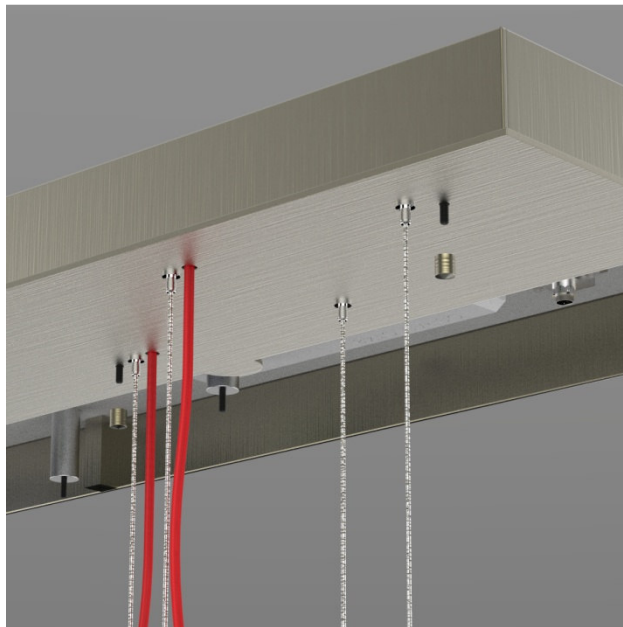

Figure 6
- Lift housing plates up to canopy. (Figure 6)